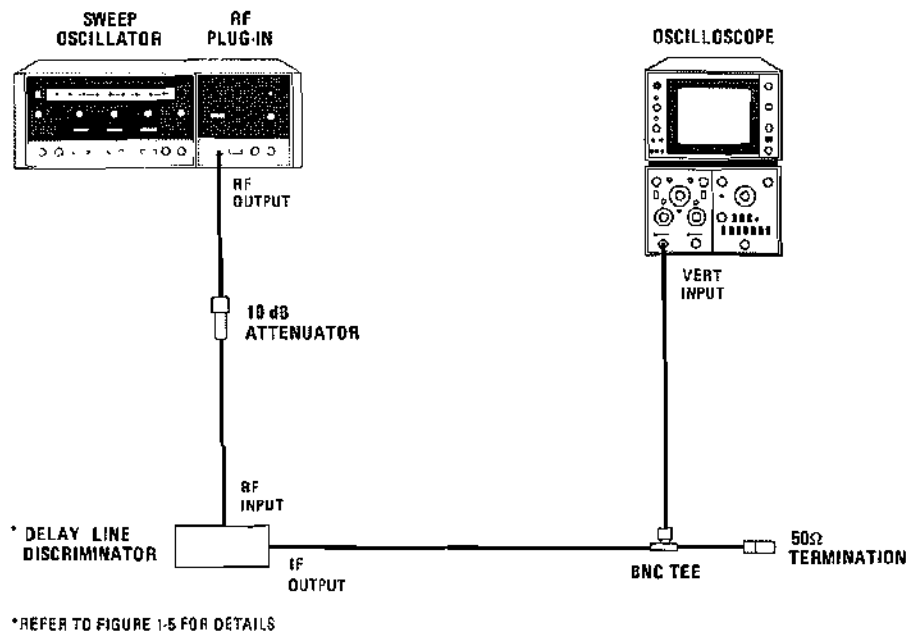

Figure 5-15. FM Offset Adjustment Test Setup
1. Connect equipment as shown in Figure 5-15.